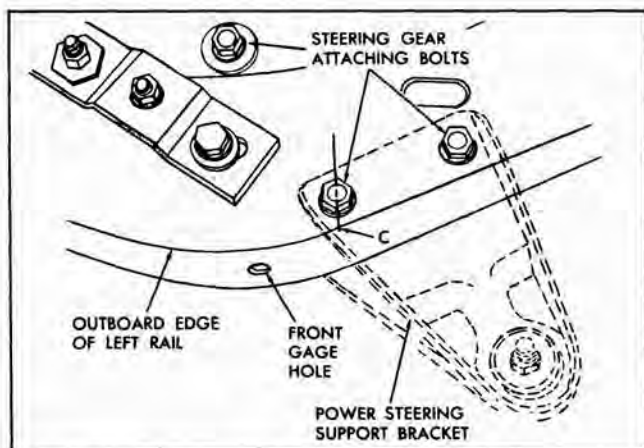

Fig. 12-6 Vertical Reference Point ("C")
- c. Outboard lower edge of motor compartment left side rail directly below front lower attaching bolt hole for the steering gear assembly Fig. 12-6.